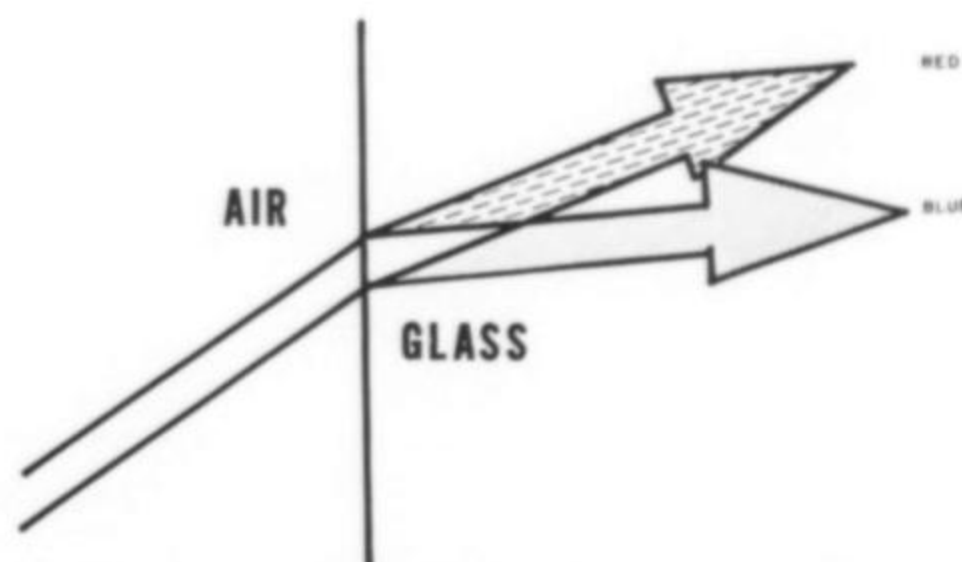

Figure 3. Variation in refraction with wavelength.
**TWO:** Light of different wavelengths is bent at different angles. Shorter wavelengths are bent more than longer wavelengths (Fig. 3). This causes a bit of a problem for our simple lens, because it